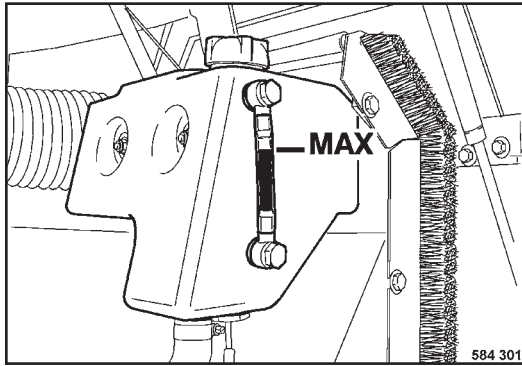

Fig. 98
- Check the coolant level (Fig. 98).